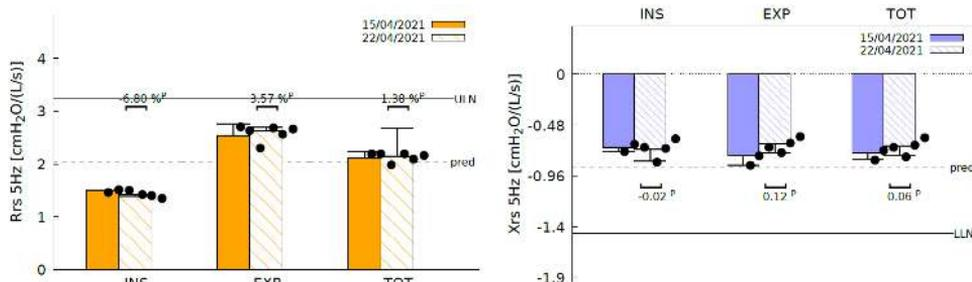
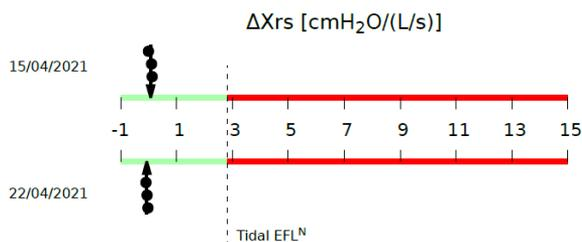
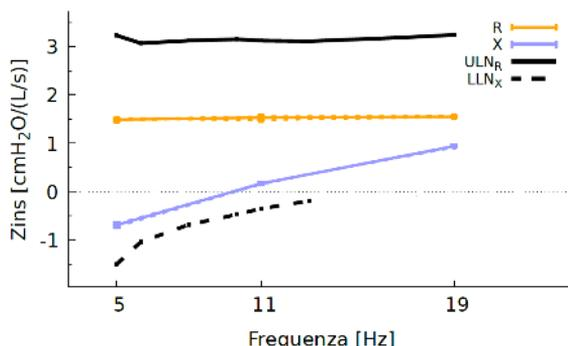

Figure 77 - Bars for resistance and reactance
Figure 78 -Expiratory Flow Limitation (EFL) during tidal breathing
Figure 79 - Inspiratory resistance and reactance spectra
Refer to Figure 77.
- Bars on the left chart of Figure 77 represent the mean and standard deviation of inspiratory (INSP), expiratory (EXP) and total (TOT) resistance calculated from the selected single measurements within a measurement session (see section *Performing a measurement session*).
- If you used a 5 Hz stimulating waveform, an additional graph on the bottom of the page is displayed (Figure 78). This graph shows as an arrow the mean and standard deviation of ΔXrs calculated over all the measurements of the session. Black dots represent the mean ΔXrs of individual measurements results. ΔXrs is the difference between the mean inspiratory and the mean expiratory reactance and it is an index of expiratory flow limitation (EFL) during tidal breathing (Dellacà et al., ERJ, 2004). A threshold of 2.81 cmH₂O/(L/s) is used to classify a patient as flow limited or non-flow limited during tidal breathing (Dellacà et al., ERJ, 2004). If such arrow is in the green part of the graph the patient has no flow limitation during tidal breathing. An arrow in the red part of the graph indicates the presence of *EFL*.
In addition to the charts reported when a single frequency stimulating waveform is used (Figure 77 and Figure 78) where data are the resistance and reactance at 5Hz, a new chart with values of resistance (orange solid line) and inspiratory reactance (blue solid line) at the frequencies of the stimulating waveform is reported at the bottom of the page (Figure 79). Shown values may refer to the inspiration, expiration or whole breath depending by your selection on the results screen before the exportation (see also section *Performing a new measurement session*). The default setting is inspiration.